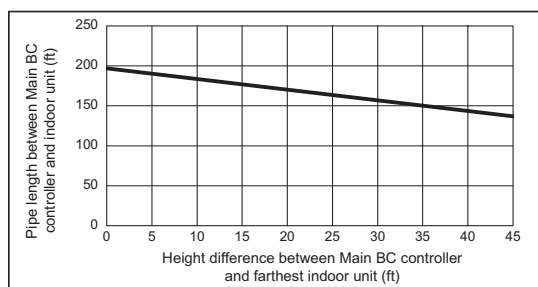

Fig. 2
*2. Details refer to Fig. 2.
*7. When the piping length or the vertical separation exceeds the limit specified in Fig. 2, connect a sub BC to the system. The restriction for a system with a sub BC connection is shown in Fig. 3. When a given system configuration falls within the shaded area in Fig. 3, increase the size of the high-pressure pipe and the liquid pipe between the main BC and sub BC by one size. When using M12, M15, M18, M36, or M48 model of indoor units, increase the size of the liquid branch pipe between the sub BC and indoor unit by one size. When using indoor models M54 or larger, the restrictions shown in Fig. 2 cannot be exceeded.
*7. When the piping length or the vertical separation exceeds the limit specified in Fig. 2, connect a sub BC to the system.
When using indoor models M54 or larger, the restrictions shown in Fig. 2 cannot be exceeded.